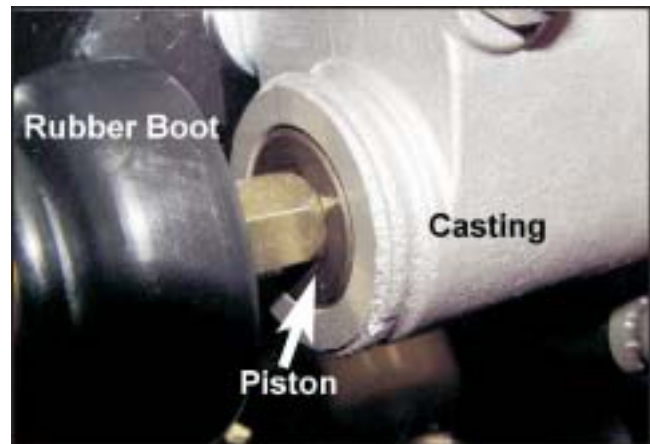

Figure 7-27. Location of piston.
2. Pull back the rubber boot at both master cylinder plunger pins and check each piston location relative to the face of the master cylinder casting as illustrated in figure 7-27. Use a straight edge against the face of the casting to ensure the piston is between zero and 0.5 mm depth in the master cylinder.